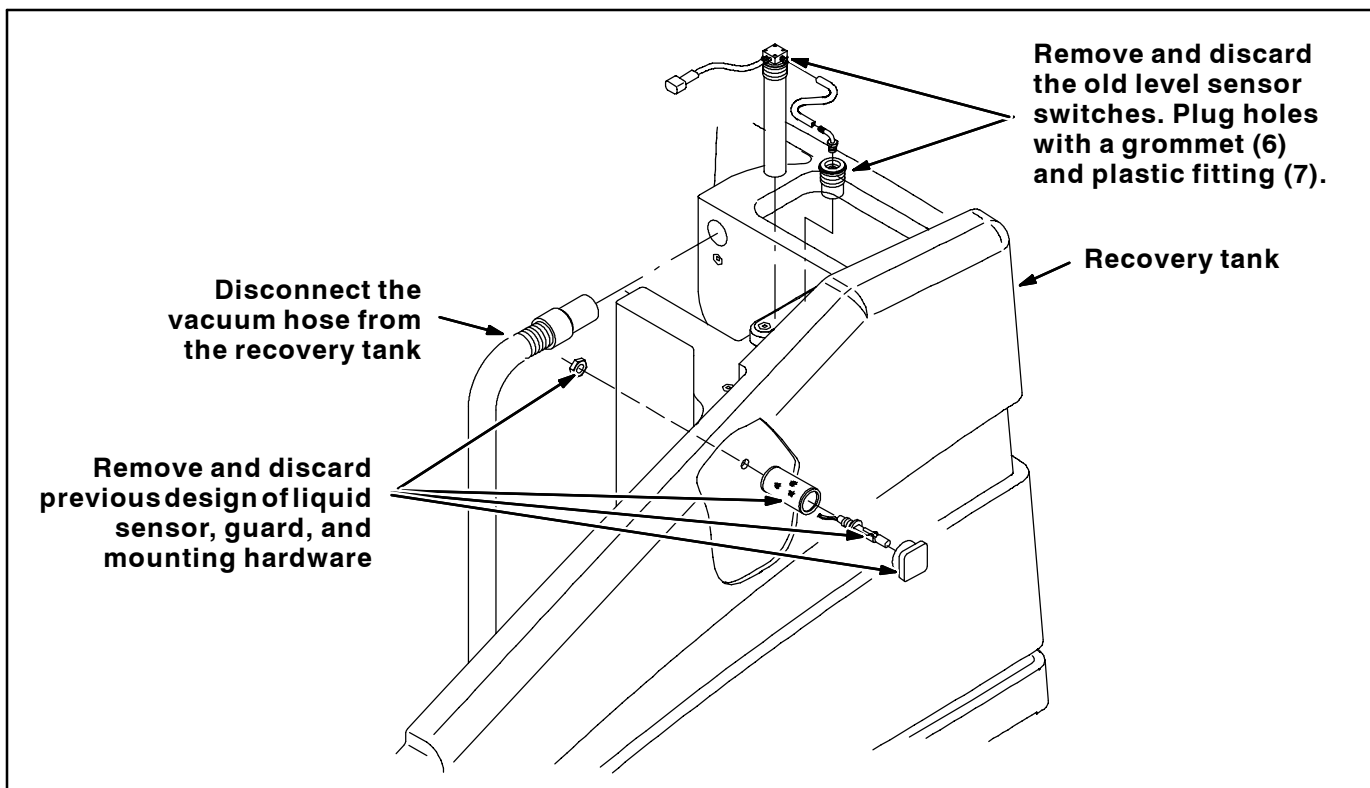

FIG. 2-Remove Old Liquid Level Sensor
6. **Machines equipped with the previous design of the float switch:** Remove the old liquid level sensor and guard from the recovery tank. Discard the liquid level sensor and guard. Refer to Fig. 2.
Machines equipped with the 14" pressure tube switch (375427) and 2" tube assembly (385750): Remove the old level sensor. Discard the level sensor. Refer to Fig. 2.
1. **Machines serial numbers equipped with old design of the liquid level sensor:** Remove the nut from the new liquid level sensor (1). Proceed to Step 5.
2. **Machines equipped with the 14" pressure tube switch (375427) and 2" tube assembly (385750):** Use the grommets (6) and plastic fittings (7) to plug the holes where the level sensor removed in the previous step was located. Refer to Fig. 2.